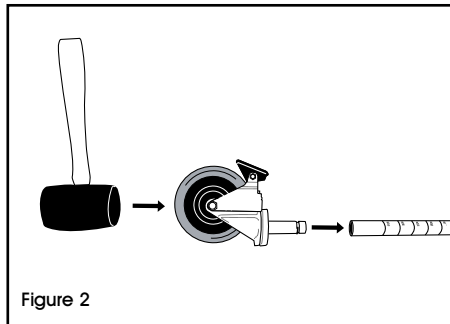

Figure 2
1. Make sure post is positioned as shown. (See Figure 2)
2. Engage the wheel brakes to keep casters from rolling during assembly. Use a rubber mallet to tap caster stem into posts. (See Figure 2)